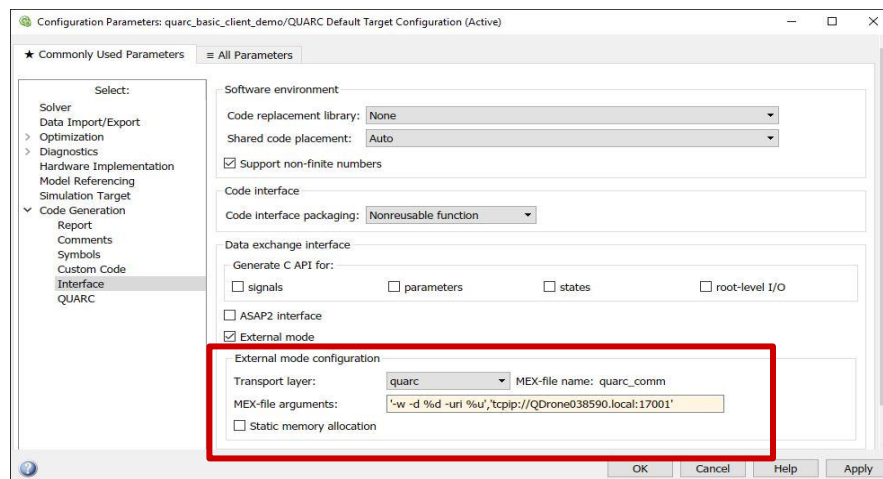

Figure 1. Setting up the MEX-file arguments
3. Expand **Code Generation** on the left side of the window, click on **interface** and set the **MEX-file arguments** (Figure 1) as follows